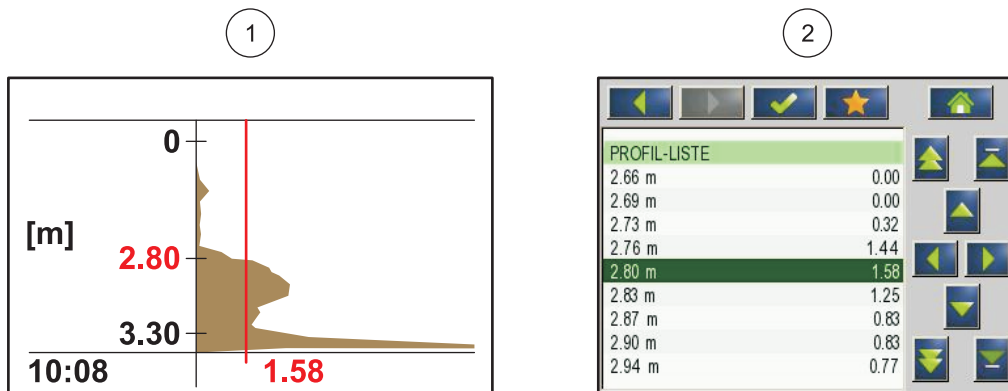

Figure 3 Profile as graphic and list
Echos from layers that are further away are quieter (weaker) than those which are closer. The SONATAX sc compensates for this attenuation. The result is indicated on the SONATAX sc as a profile. The data is found in the probe menu SENSOR SETUP > TEST / MAINT > SIGNALS in the profile list (refer to PROFILE LIST on page 26) ((2) Figure 3). The graphic display (for example sc1000) shows the profile in the measurement operation as a graphic ((1) Figure 3).